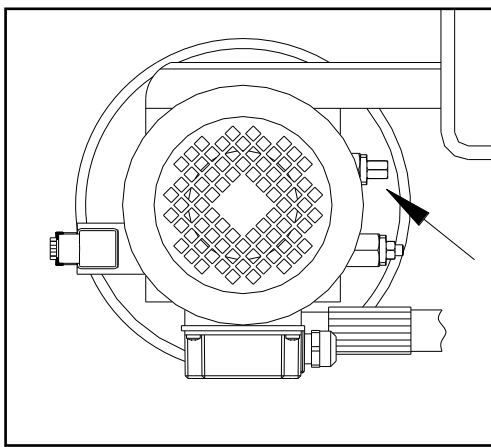

Fig. 11
- ◆ The maximum pressure valve (**Fig. 11**), located on the hydraulic oil power unit, will trip if the lift is overloaded.